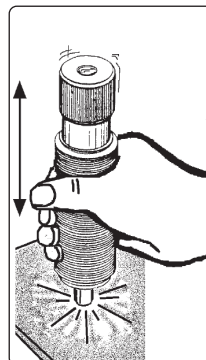

fig.8
- 6.3.9. Remove T-handle and firmly bounce the ram piston (fig.8) on a hard, but non-damaging, surface 6 to 10 times to consolidate the oil.